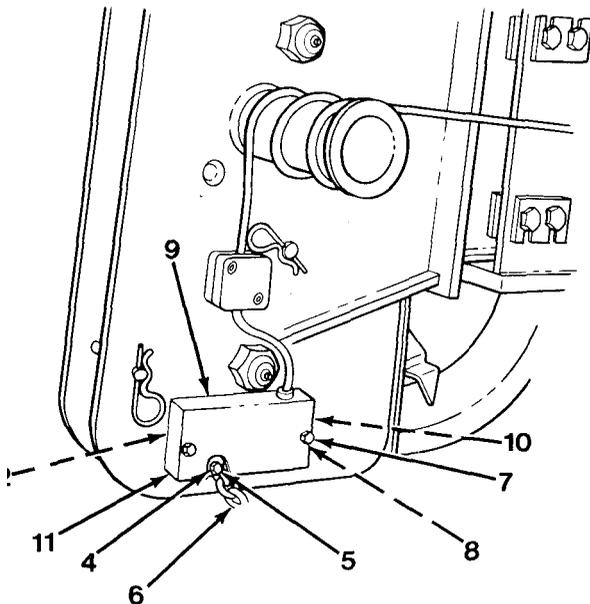

Figure 10-2
3. Install two sockethead cap screws (3) back into counterweight (1).
4. Remove threaded pin (4) from clevis (5) on top of counterweight chain (6, Figure 10-2).